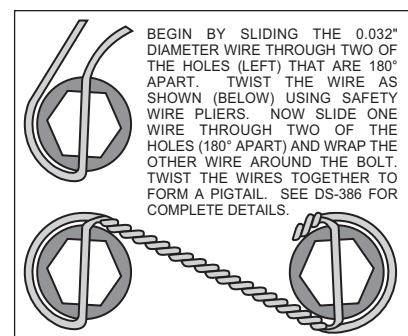

Figure 4. Safety Wire Diagram
- Apply red *Loctite*® 271 to bolt threads (2) before assembly of the caliper bracket (1) to backing plate face of spindle. Position the caliper mounting bracket (1) onto the spindle while positioning spacers (3) between bracket and spindle face. Slip the mounting bolts (2) into the threaded spindle holes, finger tighten. Torque two bolts (2) to 30 ft-lb. **NOTE:** Be sure the heads of the caliper bracket (1) insert nuts are facing outward toward the wheel.
- Install five new wheel studs (4) into the hub (5). Torque to 77 ft-lb. **NOTE:** There are two five lug patterns in the hub (5 x 4.50 and 5 x 4.75). Make sure of the correct hole pattern for the correct wheel application before installing studs into hub.
- Pack the large inner bearing cone (6) with high temperature disc brake bearing grease (available from your local auto parts store) and install into the backside of the hub (5).
- Install the grease seal (7) by pressing into the backside of the hub (5).
- Attach rotor adapter (8) to rotor (9) using six bolts (10). Torque bolts (10) to 180 **in-lb**. Safety wire bolts (10) using standard 0.032 inch diameter stainless steel safety wire as shown in Figure 4. Please refer to Wilwood's data sheet DS-386 (available at www.wilwood.org/ds386.pdf) for complete safety wire installation instructions. **NOTE:** The flat side of the rotor (8) lugs face toward the rotor adapter (9) with the dished side of the rotor adapter (8) facing away from the rotor (9).